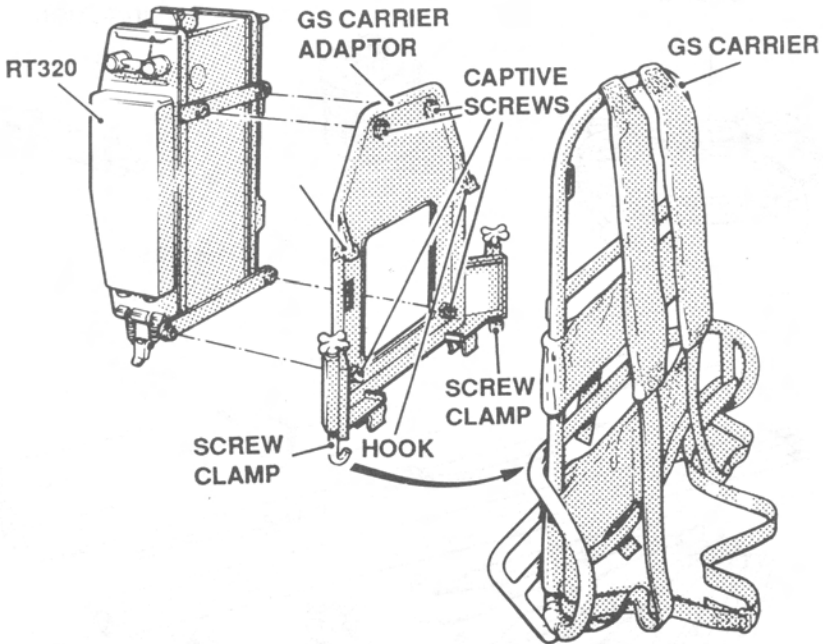
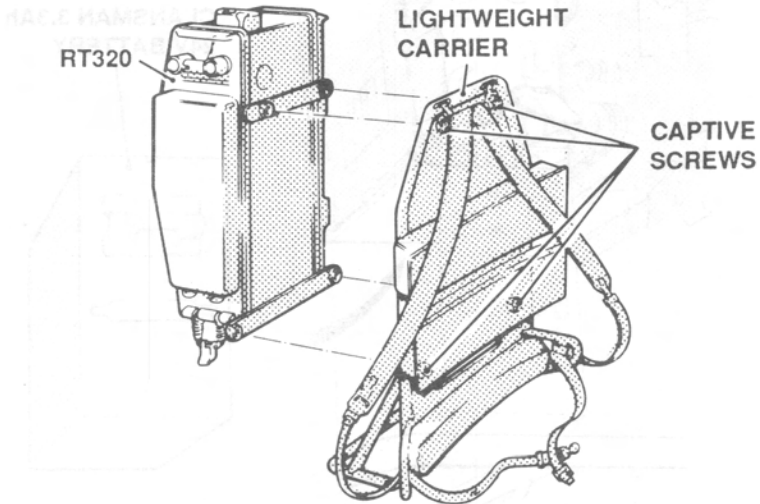

Fig.3a Fitting RT 320 to Carrier (GS)
Fig.3b Fitting RT 320 to Carrier (Lightweight)
1.7 The transmitter/receiver (RT 320) is contained in a sealed light alloy case. All controls are mounted on the front panel and external connectors on the top and rear panel. Projections around the front and rear panels protect the controls and connectors. The RT 320 is mounted on either a GS carrier with adaptor (see Fig.3a) or a lightweight carrier (see Fig.3b), and the battery is clipped to the bottom of the case of the transmitter/receiver. When A SURF 12W is used it is screwed directly to the case of the RT 320.
2.2 Fitting RT 320 to carrier (Fig.3a & b). Proceed as follows: